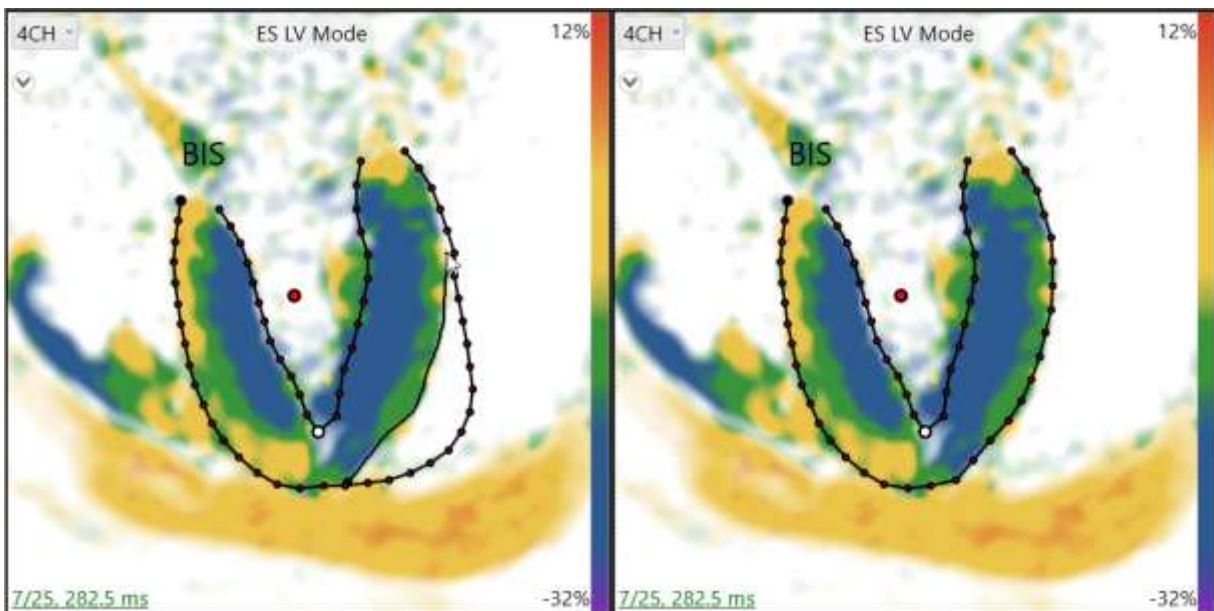

Figure 4-21: Modifying the mesh by redrawing a contour section using the freehand method
3. If a large section of the mesh's epicardial or endocardial contour points need to be redrawn, you may redraw a portion of the contour by left-clicking periodically near the existing mesh. Double-clicking at the end of this correction will signal the completion of the new contour and will be incorporated into the existing mesh (Figure 4-21).